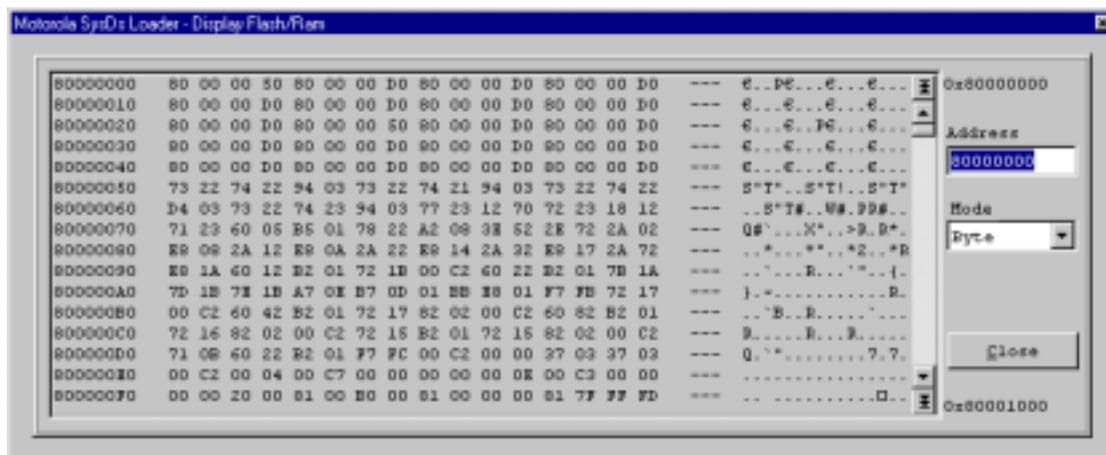

Figure 3-3 Display Flash/Ram Display
12. To view the contents of Flash memory, click on the Display button. This brings up the Display Flash/Ram display (**Figure 3-3**).